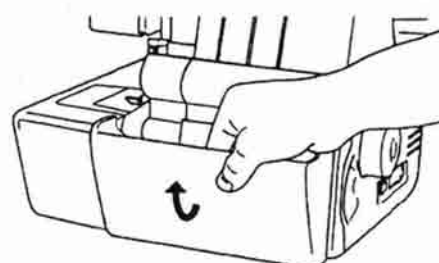

Fig. 8
- To remove the waste container, pull it forward and then tilt it slightly (Fig. 8).